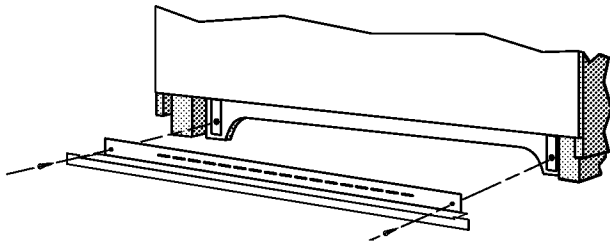

FIGURE 2
- See **figure 2** next page for lower trim installation.